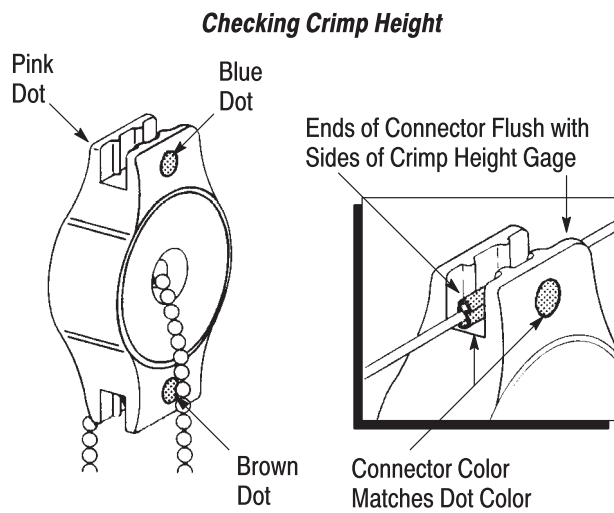

Figure 4
4.1. Crimp Height (See Figure 4)